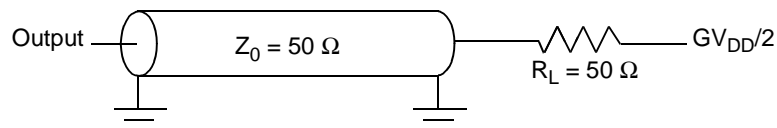
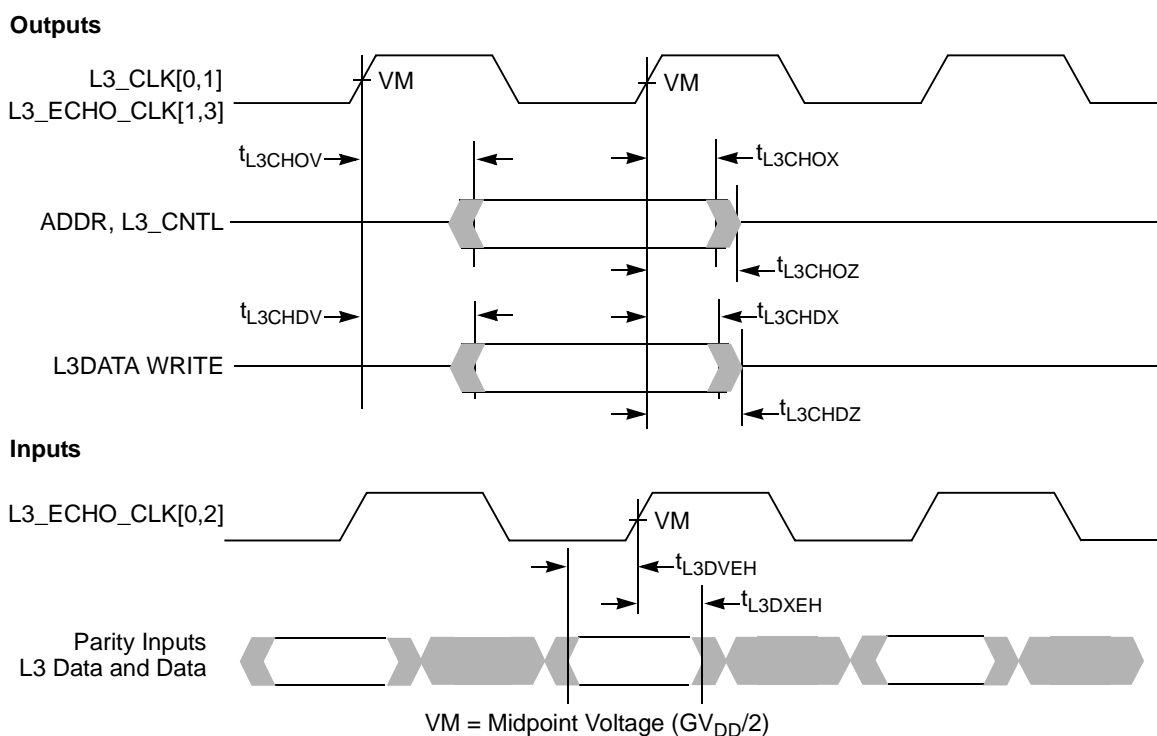

Figure 8. AC Test Load for the L3 Interface
Figure 12. L3 Bus Timing Diagrams for Late Write or PB2 SRAMs
- For high speed operations, L3 interface address and control signals should be a ‘T’ with minimal stubs to the two loads; data and clock signals should be point-to-point to their single load. Figure 8 shows the AC test load for the L3 interface.
Table 12 provides the L3 bus interface AC timing specifications for the configuration as shown in Figure 9, assuming the timing relationships shown in Figure 10 and the loading shown in Figure 8.
5. All output specifications are measured from the midpoint voltage of the rising (or for DDR write data, also the falling) edge of L3\_CLK to the midpoint of the signal in question. The output timings are measured at the pins. All output timings assume a purely resistive 50-Ω load (see Figure 8).
Table 13 provides the L3 bus interface AC timing specifications for the configuration shown in Figure 11, assuming the timing relationships of Figure 12 and the loading of Figure 8.
Figure 12 shows the L3 bus timing diagrams for the MPC7455 interfaced to PB2 or late write SRAMs.